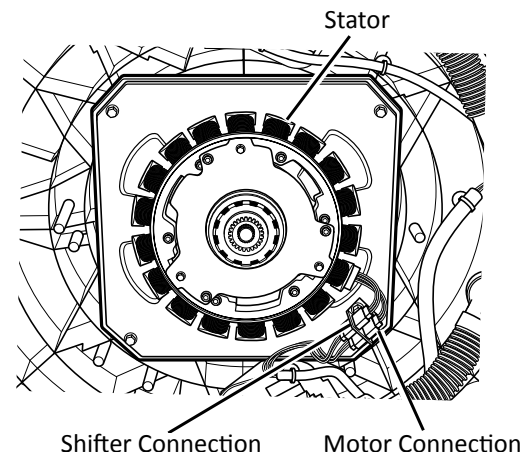
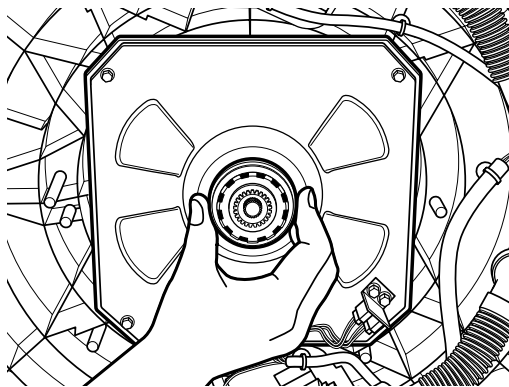

Figure 2 - Motor Cover (Rotor) Removed
Figure 3 - Checking Slider Movement/Appearance
12. Remove the motor bolt, then the motor cover (see Figure 2). Remove the motor stator and the shifter coil and confirm that the slider on the motor shaft moves freely (see Figure 3).